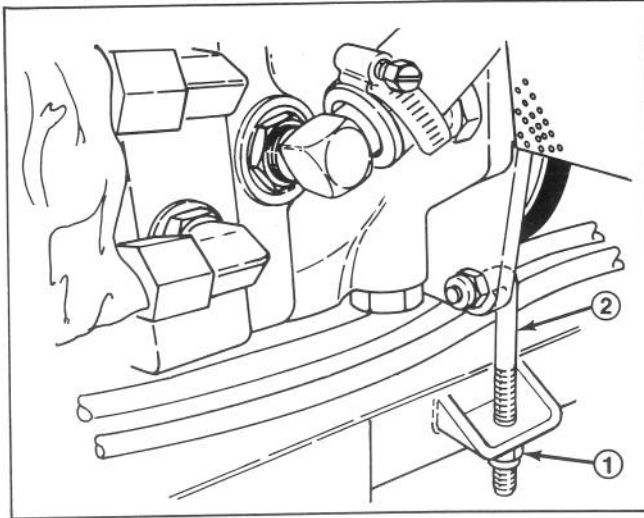

Figure 36
- A. Tighten nut on adjustment rod (Fig. 36) until desired belt tension is attained.